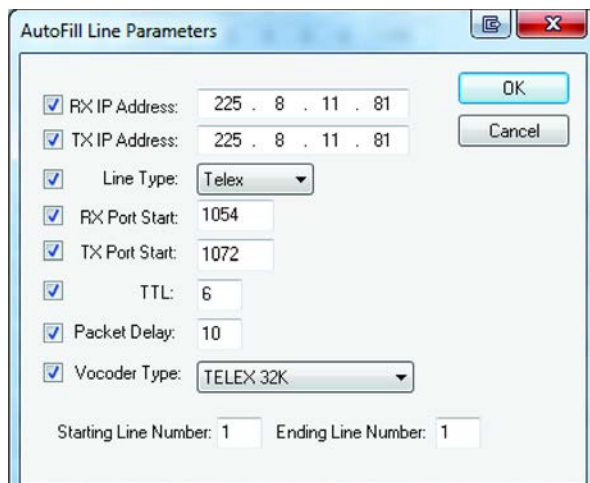

FIGURE 34. AutoFill Line Parameters Window
The **AutoFill Line Parameters** window, shown in Figure 34, is used to eliminate repetitious data entry by automatically populating the corresponding fields on the Per Line Parameters window with the entries shown in the AutoFill Line Properties window. The RX and TX entry automatically increment by one (1) for each filled line.